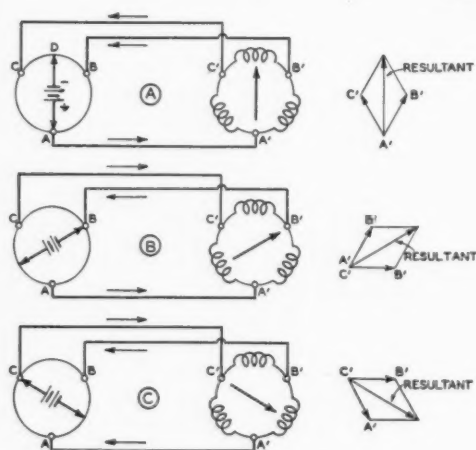

Figure 2. Simplified vector analysis of the manner in which the d.c. selsyn operates.
The three sketches of figure 2 show how these magnetic components combine for three positions of the actuator arm. In figure 2 (A), the current in the actuator resistance will flow from point A up both sides and back into the battery through point D. A certain IR drop will exist across A-B which will cause a current to flow through coil A'-B' producing a magnetic vector shown on the vector diagram. A current of the same magnitude flows through coil A'-C', but due to the physical orientation of its axis, its magnetic component will be in a direction different from A'-B'. No current will flow in the coil C'-B' because the IR drops C-D and B-D are equal and opposite on the actuator resistance. Therefore, the resultant will be the vector sum of the two components A'-C' and A'-B', and it will point in the same direction as the actuator arm.
In figure 2 (B), the actuator arm has been moved, causing different voltages to be applied to all the coils but A'-B'. Zero voltage now exists on coil A'-C' and, therefore, points A' and C' are at the same potential. The two magnetic components A'-B' and C'-B' now combine to form the resultant which has followed the ac-
tuator arm around. The compass needle follows the resultant magnetic field and, hence, the actuator arm. Figure 2 (C) carries the process one step further, and we see that no current flows in coil A'-B' this time, and the compass needle is still in step with the actuator arm making it truly a "self-synchronous" device. As the actuator arm is rotated, the current in a given coil goes through a reversal cycle, and its contribution to the magnetic resultant does likewise.
Figure 2 shows the internal construction of the meter, indicating the manner in which the whole unit is mounted on a bent subpanel and suspended by posts from the front panel of the carrying case. The rather peculiar bent subpanel is made from a flat sheet of $\frac{1}{8}$ " metal, bent so as to form a channel for mounting the electrolytic by-pass condensers and also to serve as a shield between the input and output stages of the unit. The bending can be easily accomplished with a couple of small boards and an ordinary vise. The first two amplifier stages are mounted on the small shelf on one side of the condenser channel, and the third stage, diode rectifier, and power supply on the larger shelf at the other side of the channel. The input switch and range selection resistors are mounted on the front panel above the condenser bank.
Figure 2. Side view, showing the shape of the chassis. The "hair" wire at the top of the chassis is the feedback resistor R. At the bottom, behind the power transformer, are the two neon bulbs.